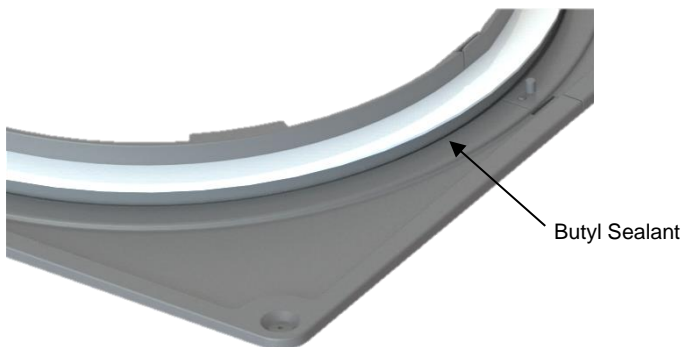

Figure 5
- 2.) With the white tape upward, apply approximately 77" of butyl sealant rope around the perimeter of the adapter flange where the riser pipe will meet the flange (Fig.5). Cut off remaining butyl sealant & set aside for step 11. Overlap and knead the ends of the butyl rope together to ensure a water-tight seal.